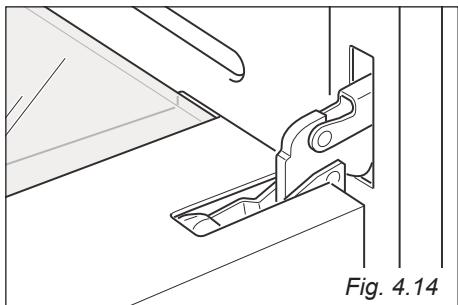

Fig. 4.14
- Open the door to the full extent (fig. 4.14).